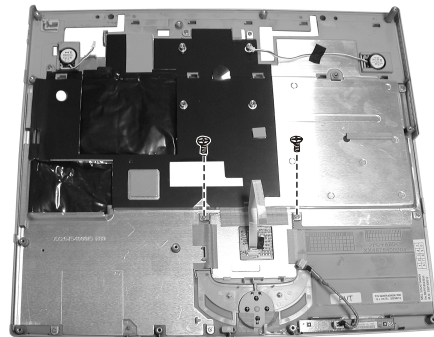

Figure 2-33 Free the touch pad
5. Remove two screws fastening the touch pad bracket. Then remove it. (Figure 2-33)
6. Remove the click holder and touch pad panel. (Figure 2-33)